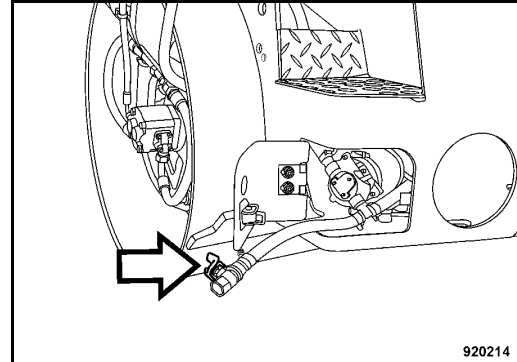

Fig. 186
- Take out the drain hose (Fig. 186), open the drain tap and let all water run out.